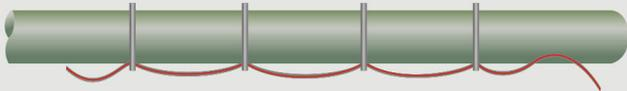

Figure 17: Improper Support for Tracing System
5. The correct support will prevent sagging on the steam tracer line and ensure the tracer line is in contact with the process pipe. *Figure 17* depicts